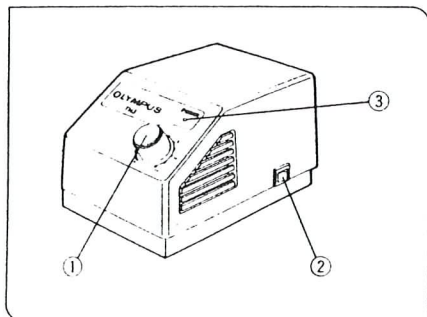

Fig. 11
## 1 Adjusting the Illumination Brightness (Figs. 11,12)
1. After making sure the transformer's voltage adjustment knob ① is turned to the "2" side (low voltage side), turn ON the main switch ②.
- At this point, the operating indicator LED ③ (green) goes on.
2. Rotating the voltage adjustment knob ① clockwise (toward "12" on the scale) will raise the voltage. (Fig. 11)